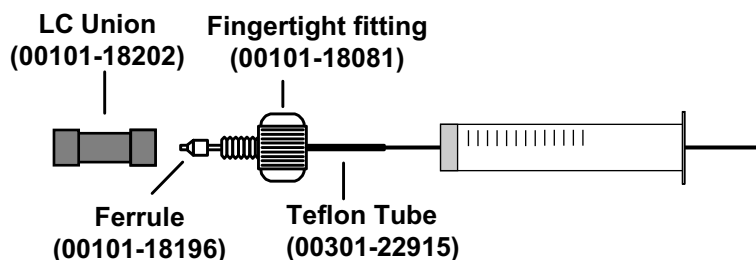

Figure 3-2. Syringe and syringe adapter assembly
3. While holding the plunger of the syringe in place, carefully insert the tip of the syringe needle into the end of the Teflon® tube on the syringe adapter assembly. See Figure 3-2.